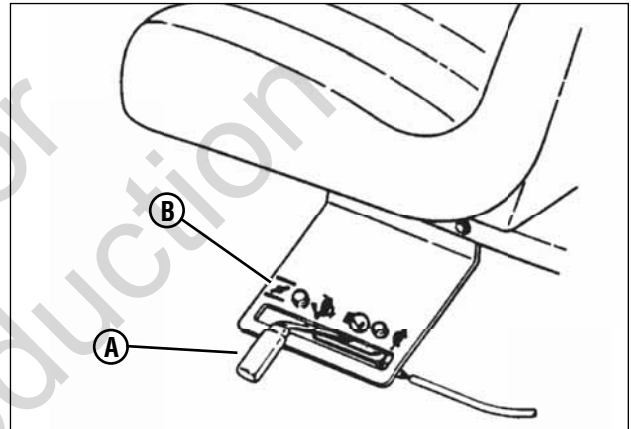

Figure 6: Engine speed control
4. Move the engine speed control (**A, Figure 6**) to the choke position (**B**) to start a cold engine.
- Move the engine speed control (**A, Figure 6**) to the choke position (**B**) to start a cold engine.